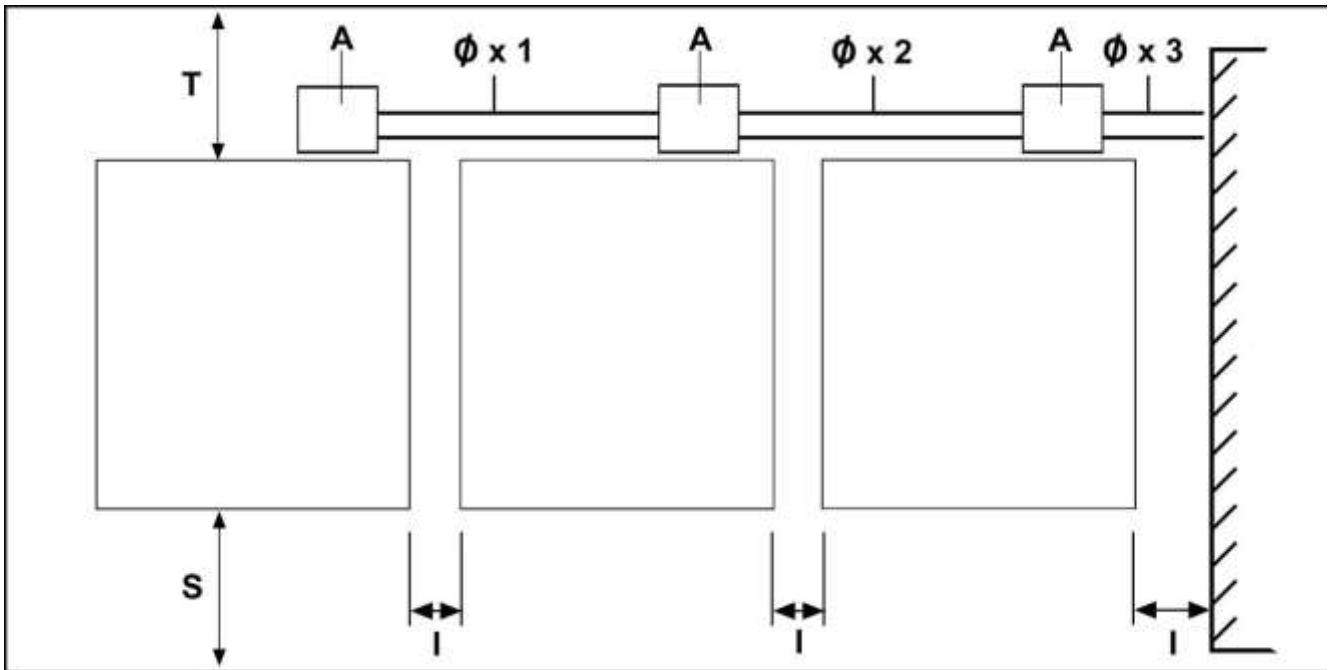

Fig. 2.6
The minimum distance between adjacent machines and the user and maintenance areas (values **I**, **S** and **T** of **Figure 2.6**) are specified on the table below.
**Positioning conditions** (Fig. 2.6)
Diameter of B manifold: refer to table on section 2.4 and Figure 2.6.